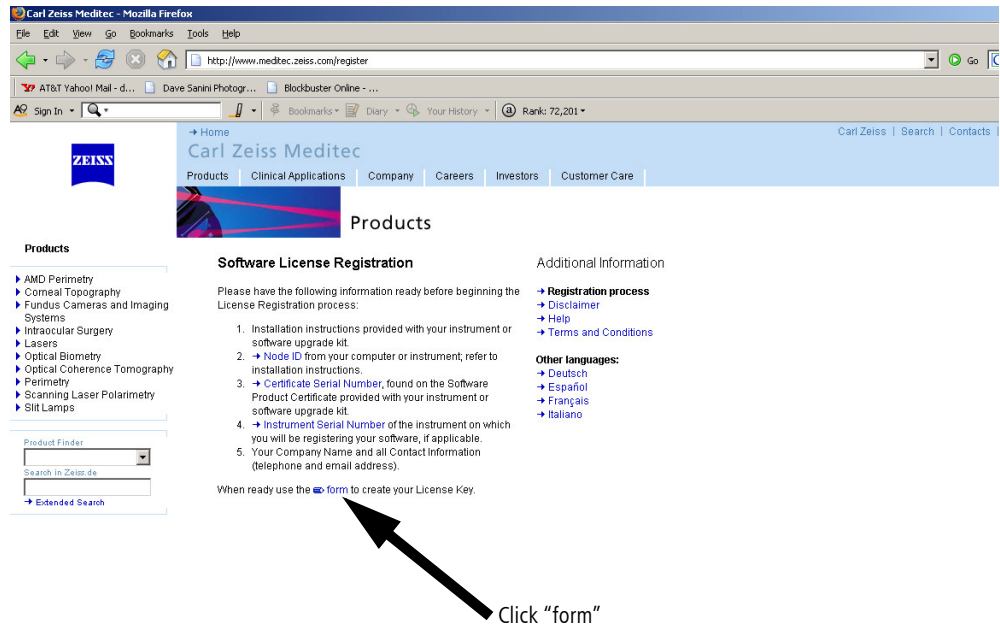

Figure J.8 Carl Zeiss Software License Registration Page on the Internet
- 5 Go to the bottom of the page, where it says: "When ready use the form to create your License Key" and click on the word "form" (See Figure J.8 below).